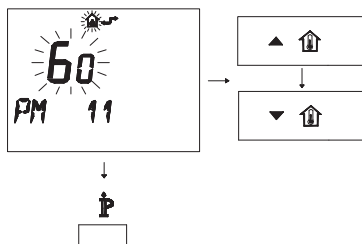

Fig. 7.31
- To modify the programmed SET, act on buttons **▲** **⬆** or **▼** **⬆** and wait for the programmed number to flash (Fig. 7.31). Each step increased or decreased corresponds to 1 second.